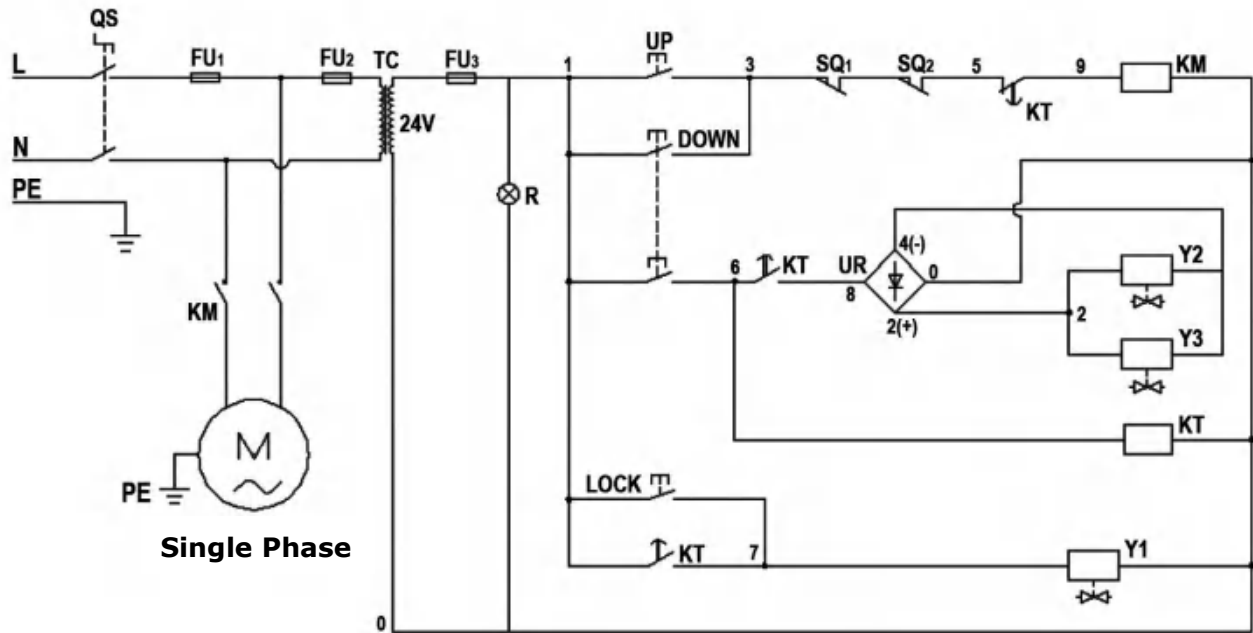

Fig. 38
3.3. Single phase Circuit diagram (See Fig. 38).